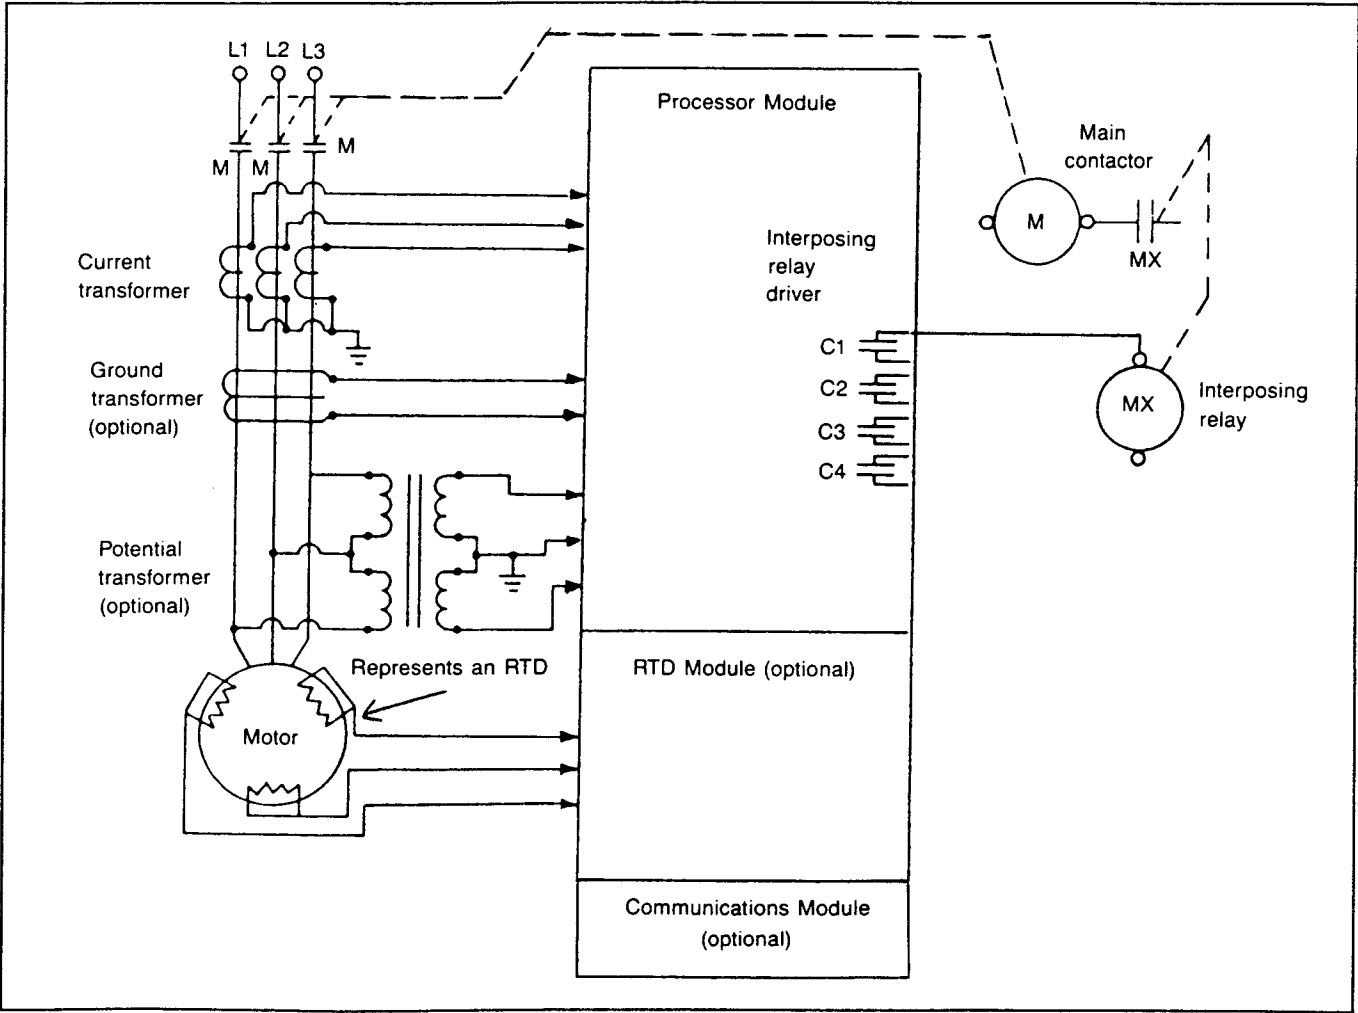

Figure 2.1 — System Overview (Simplified)
2.1 Sensing Inputs — The IQ-2000 receives information about motor current, line voltage and ground fault current as well as control inputs such as motor starting and stopping commands. (See Figure 2.1.) Optionally, RTD inputs supply temperature data. The motor current is derived from 3 separate current transformers which monitor each of 3 phases of the AC line to the motor. Optionally, 3 phase potential transformers may be used to monitor the line voltage being supplied to the motor.
2.1.2 Control Lines — Monitoring of the signal lines from the machine or process associated with the starter is performed by the input monitoring area of the Processor Module. (This is not shown in Figure 2.1.) These lines include the report-back signals as well as the start and stop command lines. These lines are used by the motor control area to enable and disable both the main contactor(s) and the auxiliary relays.